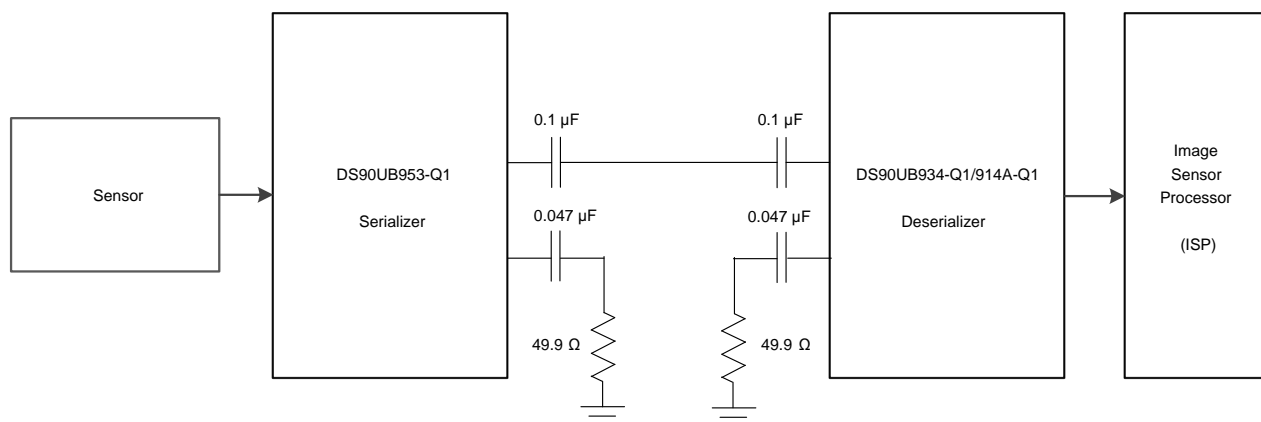

Figure 2. AC Capacitors Needed for DVP Mode
1. Because of lower back channel speed of 2.5-MHz, 100-nF, AC-coupling capacitors on the positive input are needed for both serializer and deserializer sides. To balance the impedance seen at the positive terminals, a 50-nF, or 47-nF capacitor, is used on the negative terminals as well as a 50-Ω, or 49.9-Ω, load to ground. This is shown in Figure 2.
3. The DS90UB953-Q1 contains a Mode pin (21) that straps the DS90UB953-Q1 into a specific clocking mode. Table 1 shows the mode options for the DS90UB953-Q1. Because the DS90UB953-Q1 will be interfacing with the DS90UB934-Q1 or DS90UB934-Q1, the DS90UB953-Q1 must use the DVP mode to use the 28-bit frame. The DVP mode assumes there is an external oscillator on the DS90UB953-Q1 board that is fed into the CLKIN (20) pin of the DS90UB953-Q1. Note that if a DS90UB953-Q1EVM is used a 0 ohm 0201 resistor should be populated at R1 on the DS90UB953-Q1EVM to enable the onboard external clock. Further steps are discussed in the software Section 3.1.